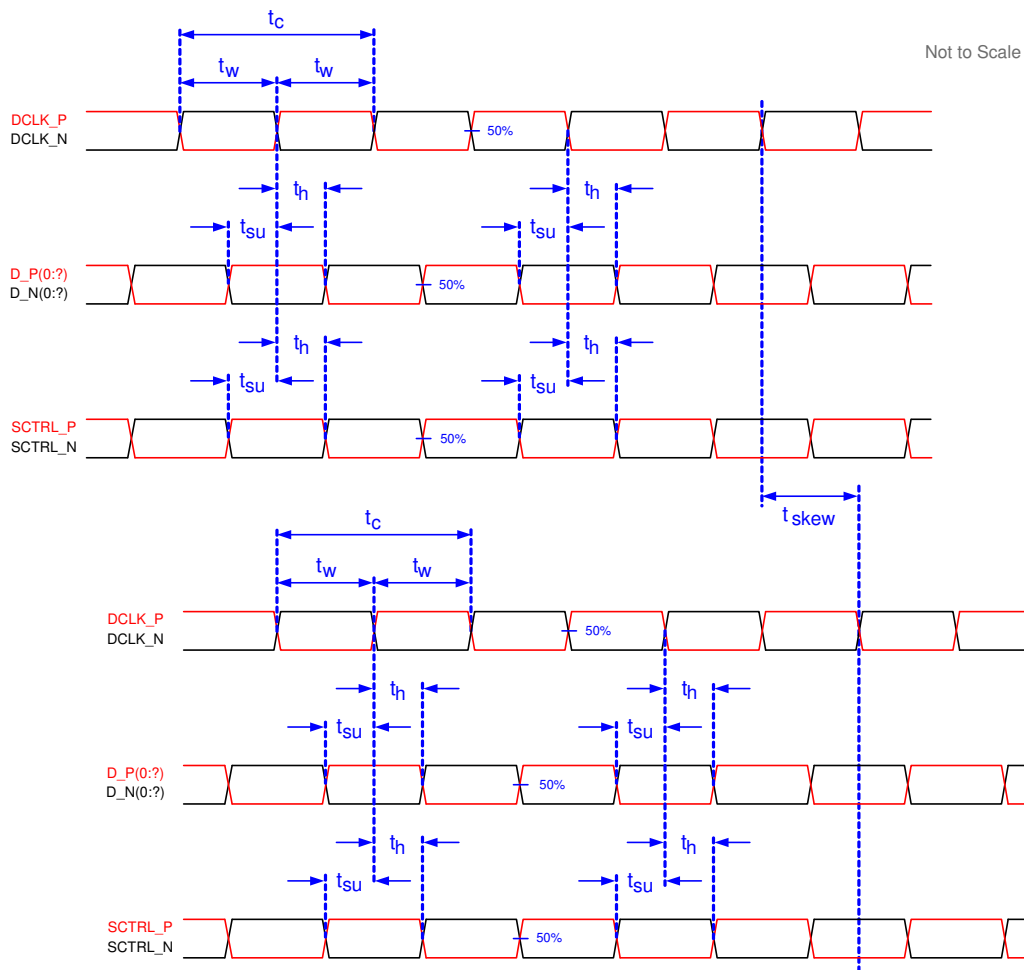

图 5-6. Timing Requirements
- (7) See LVDS Timing Requirements in 节 5.8 and 图 5-6.
(1) See 图 5-6 for timing requirements for LVDS.
(2) Channel A (Bus A) includes the following LVDS pairs: DCLK_AN and DCLK_AP, SCTRL_AN and SCTRL_AP, D_AN(15:0) and D_AP(15:0).
(3) Channel B (Bus B) includes the following LVDS pairs: DCLK_BN and DCLK_BP, SCTRL_BN and SCTRL_BP, D_BN(15:0) and D_BP(15:0).